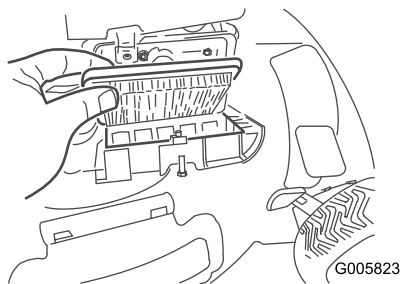

Figure 31
2. Replace the air filter (Figure 31).